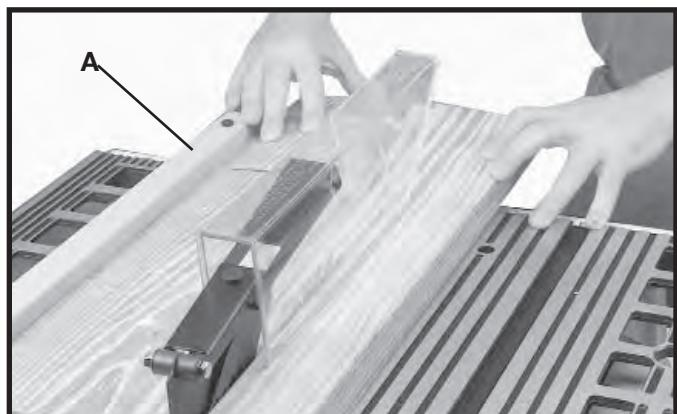

Fig. 40
Ripping is cutting lengthwise through a board. The rip fence (A) Fig. 40 is used to position and guide the work. One edge of the work rides against the rip fence while the flat side of the board rests on the table. Since the work is pushed along the fence, it must have a straight edge and make solid contact with the table. The saw blade guard must be used. The guard has anti-kickback fingers to prevent kickback and a splitter to prevent the wood kerf from closing and binding the blade.
- Start the motor and advance the work holding it down and against the fence. **Never** stand in the line of the saw cut when ripping. Hold the work with both hands and push it along the fence and into the saw blade (Fig. 40). The work can then be fed through the saw blade with one or two hands. After the work is beyond the saw blade and anti-kickback fingers, the hand is removed from the work. When this is done the work will either stay on the table, tilt up slightly and be caught by the end of the rear guard, or slide off the table to the floor. Alternately, the feed can continue to the end of the table, after which the work is lifted and brought along the outside edge of the fence. The cut-off stock remains on the table and is not touched until the saw blade has stopped, unless it is a large piece allowing safe removal. When ripping boards longer than three feet, use a work support at the rear of the saw to keep the workpiece from falling off the saw table.